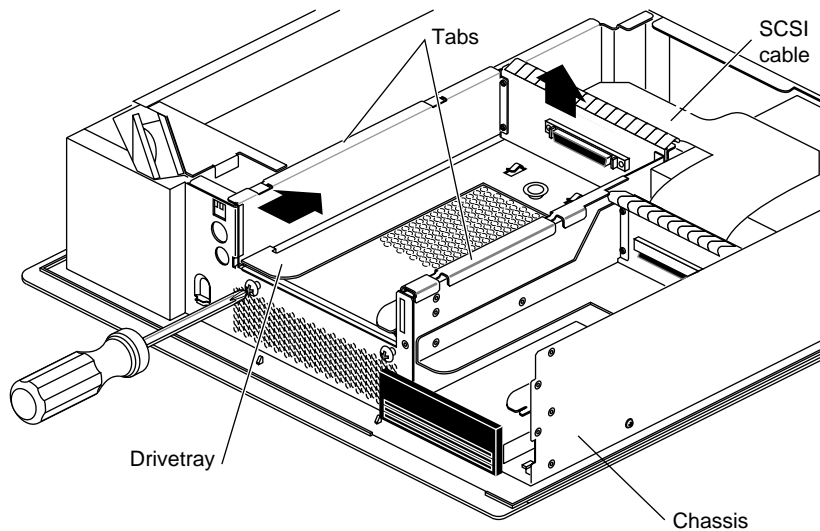

Figure 9-11 Loosening the Screws on the 5-1/4" Drive Tray
- Push the drive tray toward the back of the workstation, and pull up to remove the tray, as shown in Figure 9-11.